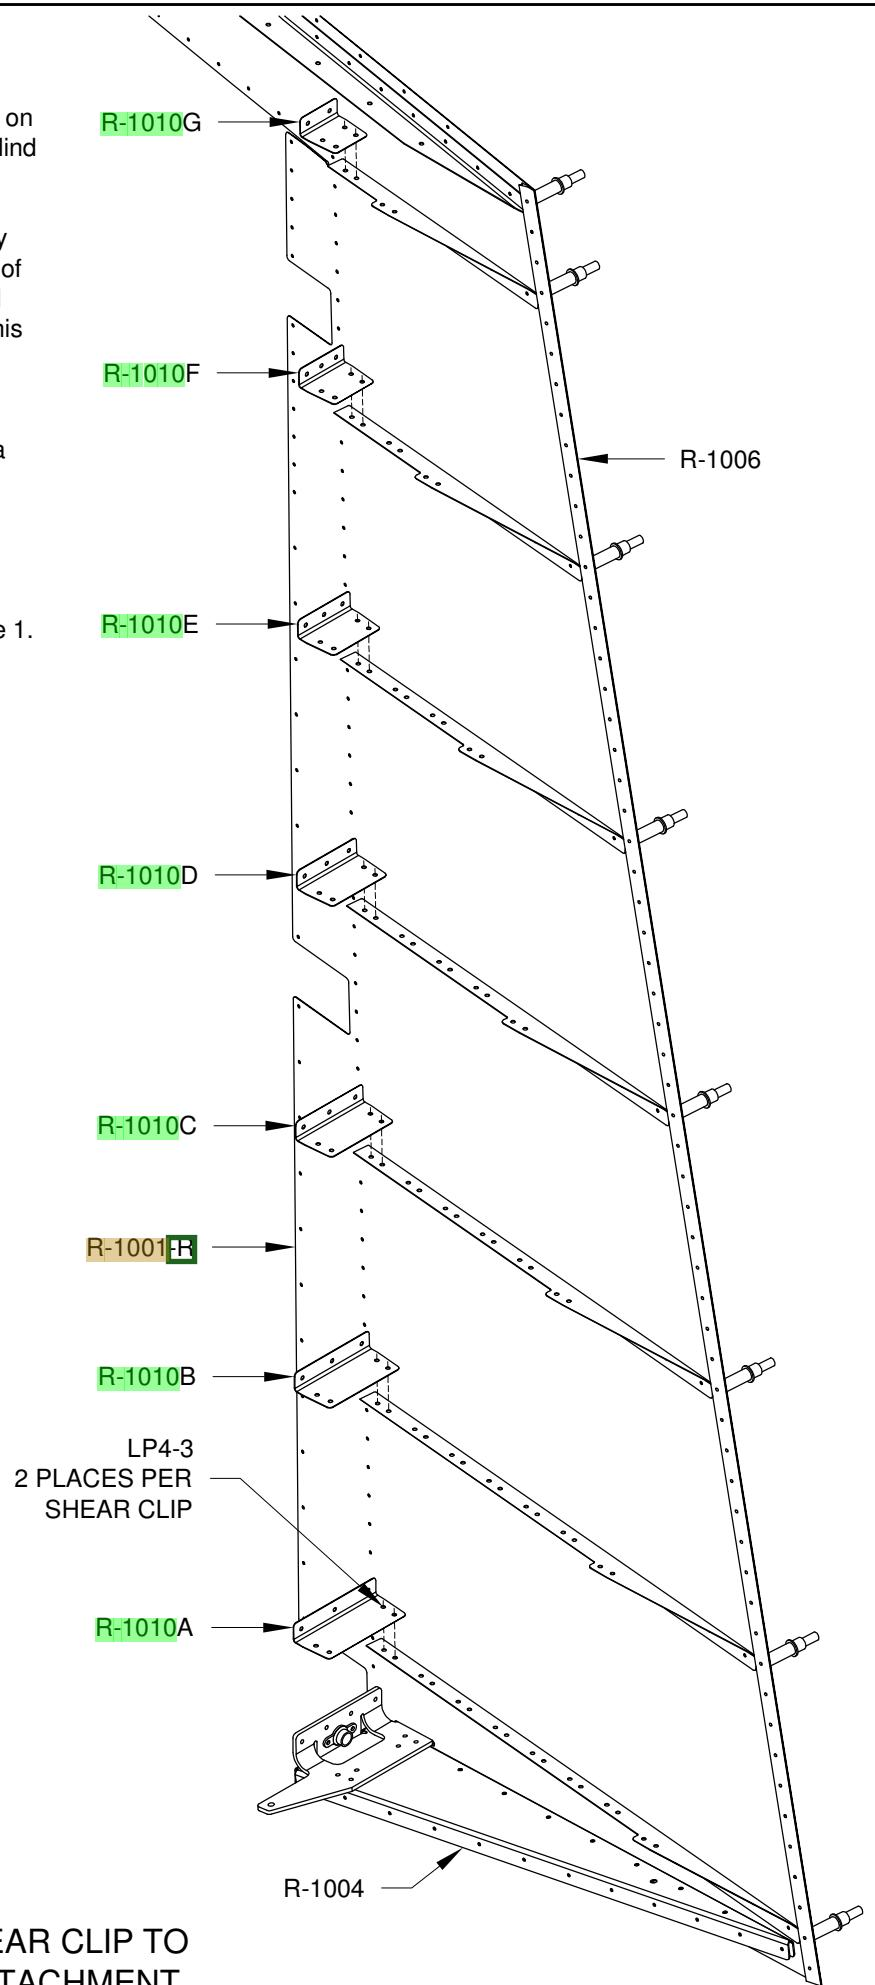

FIGURE 1: SHEAR CLIP TO STIFFENER ATTACHMENT
Cleco the trailing edge to the R-1001-R skin as shown in Figure 1.
Step 3: Position the R-1001-L Skin on the R-1001-R Skin as shown in Figure 2. Make sure the R-1015A Stiffener is positioned correctly relative to the R-1015A-R Stiffener and the R-1010A Shear Clip (see Page 7-5, Figure 1), then cleco the bottom of the skin to the R-1004 Bottom Rib. Capture the left skin with the bottom cleco in the trailing edge.